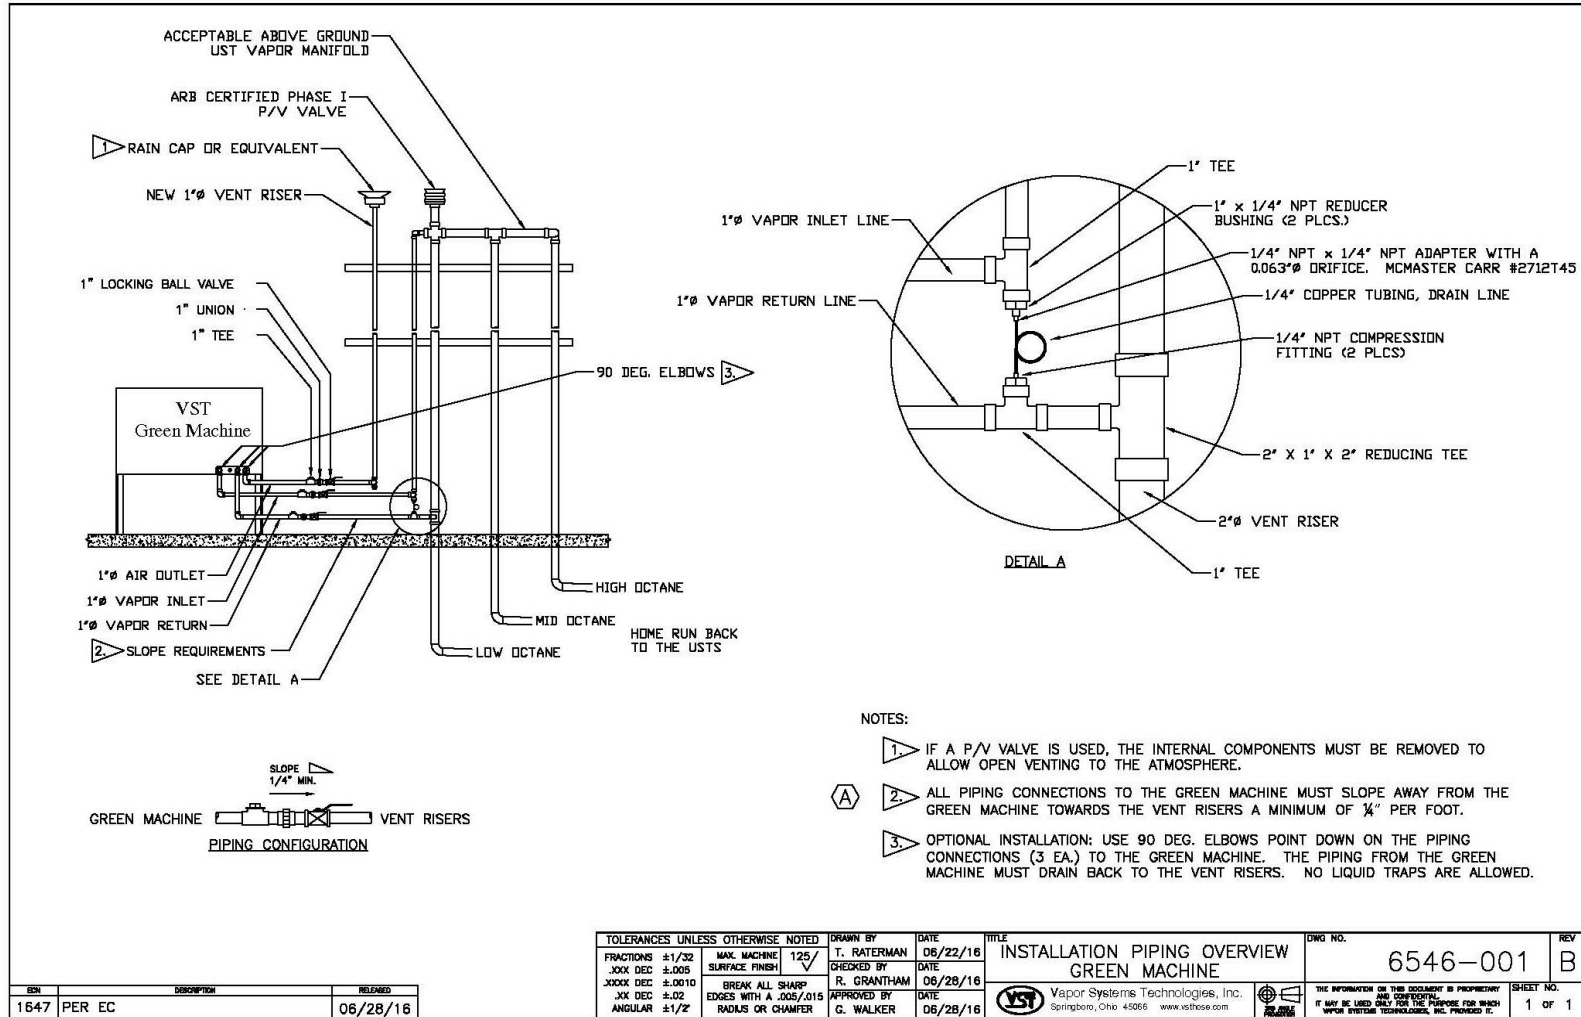

Figure 6-7: GREEN MACHINE Vapor Piping Layout
2. At the GREEN MACHINE, make sure the locks from the three ball valves have been removed, all three valves are closed, and the caps from the three tees have been removed. **See Figure 6-7.**